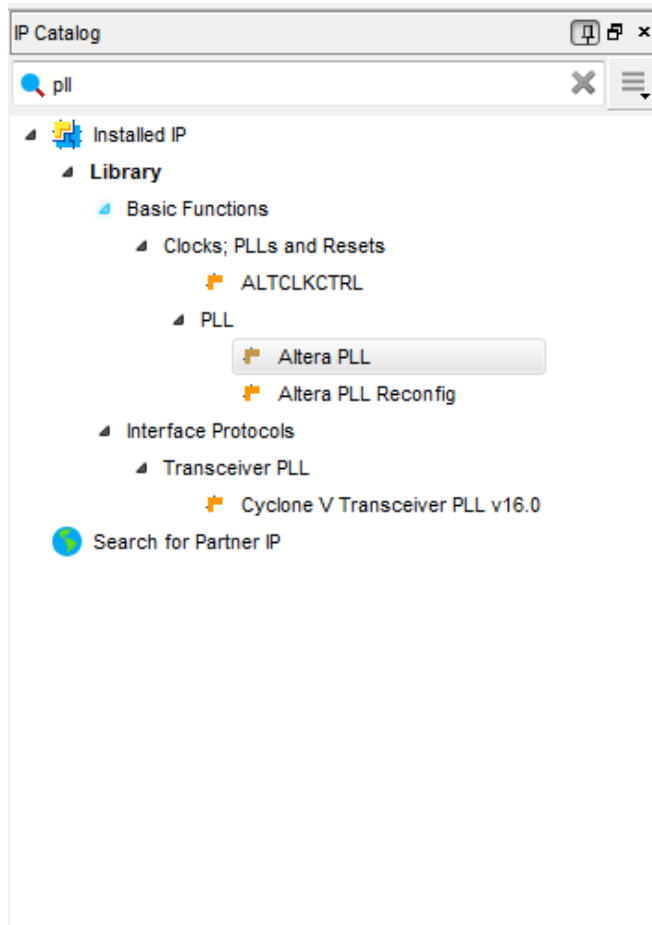

Figure 3-8. IP catalog
2. In **IP catalog**, specify the following selections (see **Figure 3-8**):